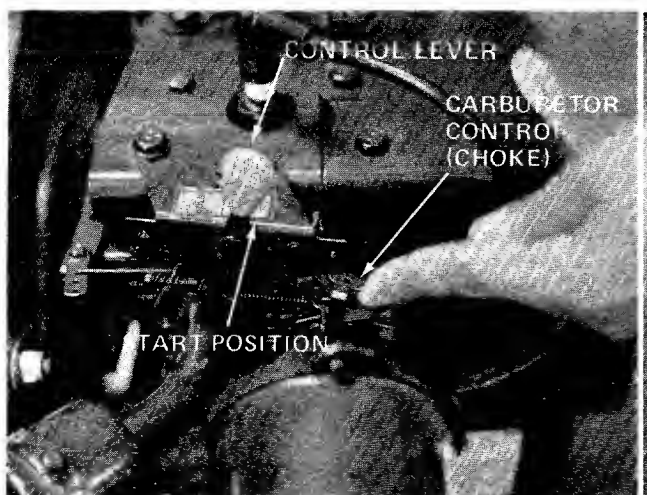

FIGURE 7 - TECUMSEH ENGINE
1. Place control lever (on engine) in "RUN" position. See figure 7.
2. For cold engine start, move carburetor control to "CHOKE" position. See figure 7.